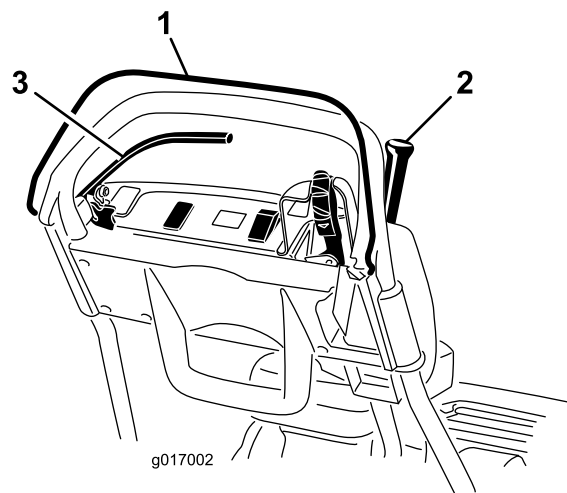

Figure 27
3. With the OPC released, attempt to engage the traction lever (Figure 27). The traction lever should not engage. If the traction lever engages, the interlock system needs service. Correct the problem before operating. Refer to Servicing the Traction Interlock Switch (page 30).
4. With the OPC depressed and the traction lever engaged, release the OPC (Figure 27). The traction lever should disengage. If the traction lever does not disengage, the interlock system needs service. Correct the problem before operating. Refer to Servicing the Traction Interlock Switch (page 30) or Adjusting the Traction Control (page 33).
5. With the OPC depressed and the shift lever moved to the left, engage the traction and reel drive, release the OPC (Figure 27). The traction lever should disengage. If the traction lever does not disengage, the interlock system needs service. Correct the problem before operating. Refer to Servicing the Traction Interlock Switch (page 30), Adjusting the Traction Control (page 33), or Adjusting the Reel Control (page 34).
6. With the OPC depressed and the shift lever moved to the left to engage the traction and reel drive, move the shift lever to the right to disengage the reel drive (Figure 27). The reel drive should disengage. If the traction lever does not disengage, the interlock system needs service. Correct the problem before operating. Refer to Adjusting the Reel Control (page 34).
2. With the OPC depressed, the traction lever engaged and the engine controls in the starting position (Figure 27). Attempt to start the engine. Engine should not start. If engine starts, the interlock switch needs service. Correct the problem before operating. Refer to Servicing the Traction Interlock Switch (page 30).
2. With the traction lever disengaged, the service brake engaged and the engine controls in the starting position (Figure 27). Attempt to start engine. Engine should start. If engine does not start, the interlock switch needs service. Correct the problem before operating. Refer to Servicing the Brake Interlock Switch (page 31).
3. With the engine running, engage the service brake (not the parking brake), depress the OPC and engage the traction lever (Figure 27). Engine should labor to overcome the brake but should not kill. If the engine kills immediately, the interlock switch needs service. Correct the problem before operating. Refer to Servicing the Brake Interlock Switch (page 31).
4. With the engine running, engage the parking brake latch, depress the OPC and engage the traction lever (Figure 27). Engine should kill. If engine does not kill, the interlock switch needs service. Correct the problem before operating. Refer to Servicing the Brake Interlock Switch (page 31).